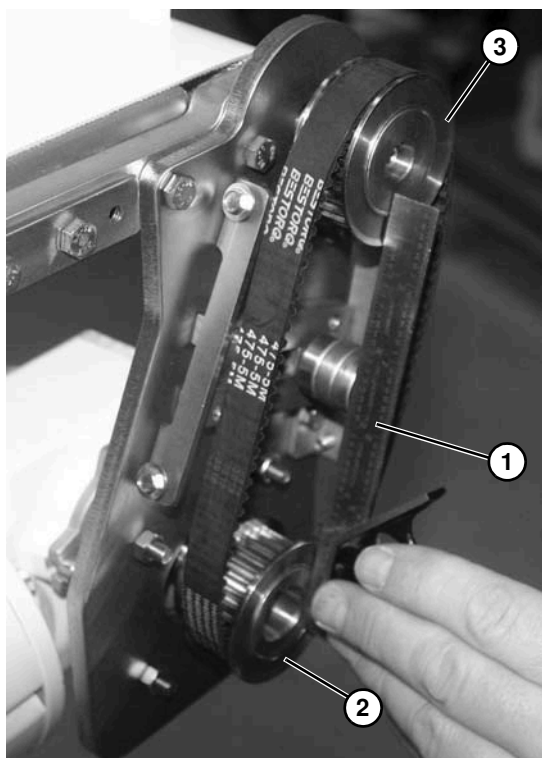

Figure 51
Using a straight edge (**Figure 51, item 1**), make sure drive sprocket (**Figure 51, item 2**) aligns with driven sprocket (**Figure 51, item 3**). Tighten drive and driven sprocket set screws.